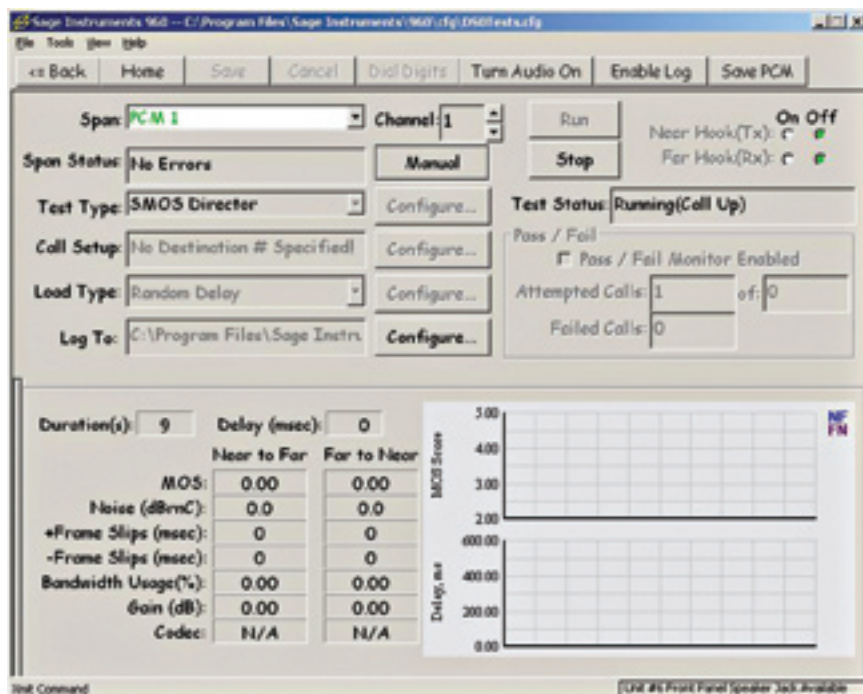

Figure 44
7. Click the configure button next to the call setup field. This action launches the configure call parameters window, choose Test Responder as the test type. Click "Save" to close the window. At the main test press "Run" on both PCM 1 and PCM 2. Your screen should now look like figure 44. The SMOS Director test is now running on channel 1 PCM 2 and the SMOS responder is running on channel 1 PCM 1.